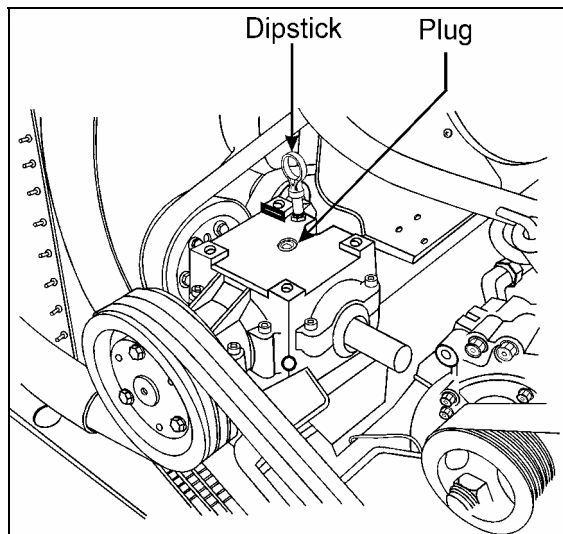

FIGURE 12: FAN GEARBOX
5. Remove the dipstick located on top of gearbox and wipe with a clean rag (Fig. 12).